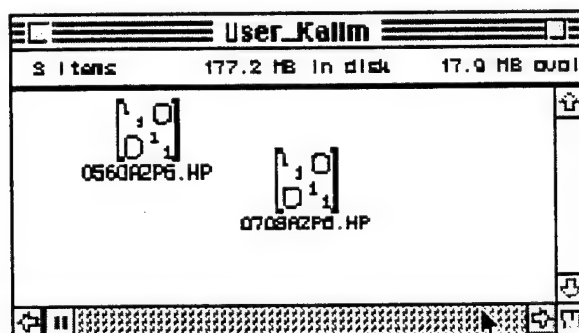

Figure 3.15: Newly created files in the User_Kalim folder
7. Now switch to the finder. In whatever folder you chose for decompression (default is the AIRBASE folder), you will find two newly created files (if you are in "View by Icon" mode, the folder should look similar to Figure 3.15). We have fooled these files into thinking they were generated by MATLAB, so double-clicking on either of them has the effect of launching MATLAB and loading the data into MATLAB's internal work area. We will discuss MATLAB shortly (in Chapter 4) and you will perform some basic manipulations with these files, so *don't forget where you put them!*